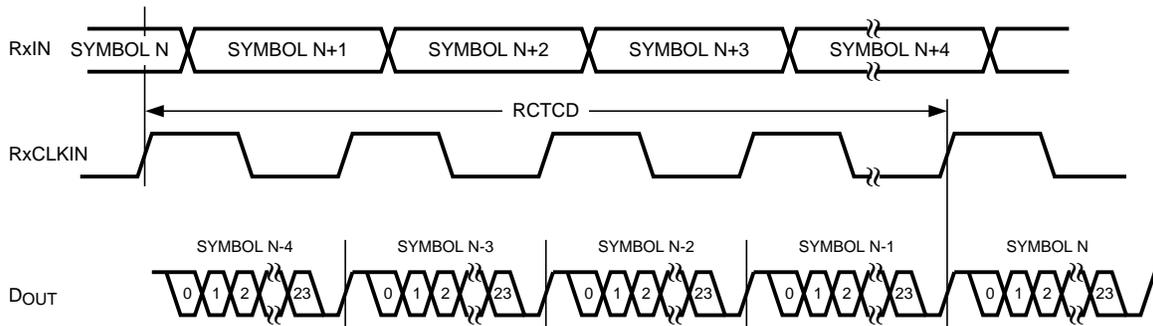

Figure 5. RxIN to DOUT Delay – RCTCD
| RCTCD  | RxCLK IN to DOUT Delay(Figure 5), (1) |            | 5 MHz–43 MHz | 4T + 1.0 | 4T + 5.0 | 4T + 10.0 | ns    |